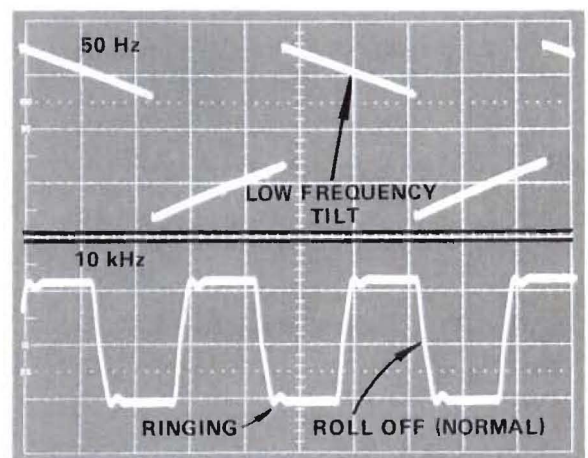

Figure 45 Display of 50 Hz and 10 kHz Square Waves
4. Change the square wave generator frequency to 10 kHz and observe the vertical amplifier response (Figure 45).